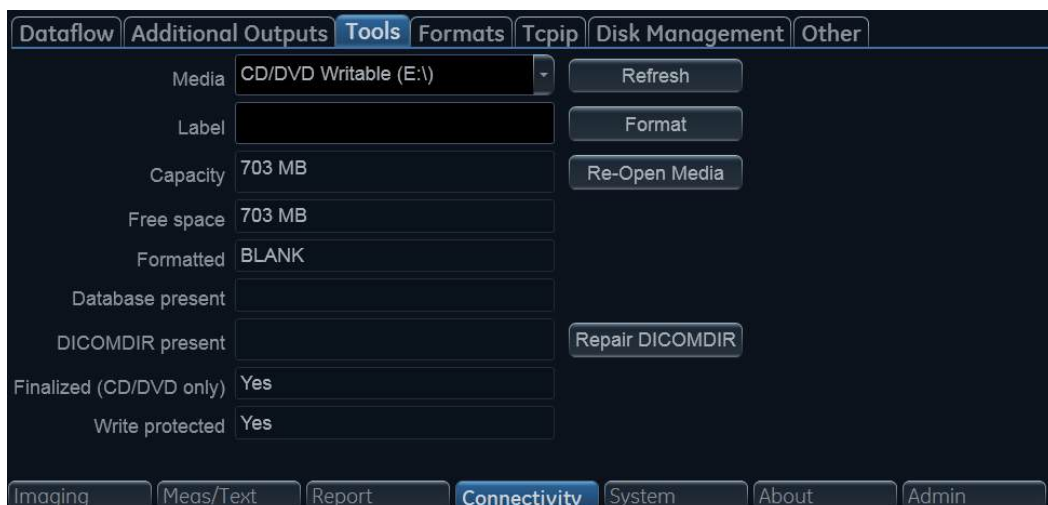

Figure 3-6. The Tools sheet
4. Select the category **Connectivity** and select the sheet **Tools** (Figure 3-6).